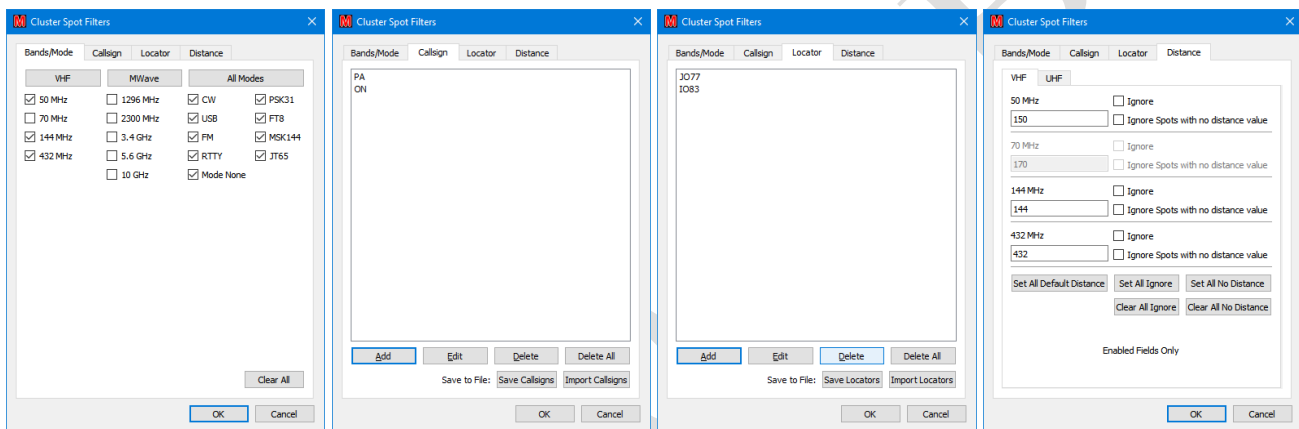

Figure 128 – Setting up filters
The content of the display can be controlled by clicking the “**Filters**” button and adjusting the Band/Mode of interest or the callsigns/locators to be watched¹²⁵ and the distance constraints (see Figure 128).
The Distance filters further restrict the spots displayed on the basis of the specified maximum ranges¹²⁷. Note in Figure 128 (4) that the 70MHz box is disabled because 70MHz is not selected in in Figure 128 (1).